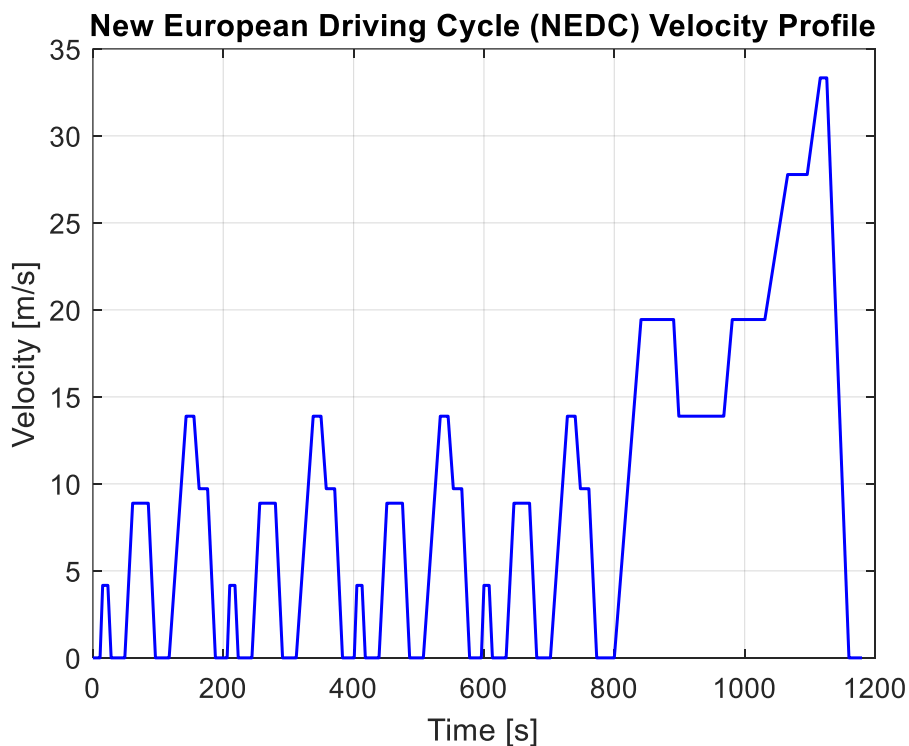

Figure 2: Plot of NEDC velocity profile with respect to time. Units for velocity are m/s.
1. Open MATLAB and create a script that loads the downloaded datafile `NEDC.mat` into the workspace and then plots the NEDC velocity profile v (see Figure 2). Include the figure in your report. You can use the command `whos` to sort out the name of the time-series variable inside the loaded datafile.